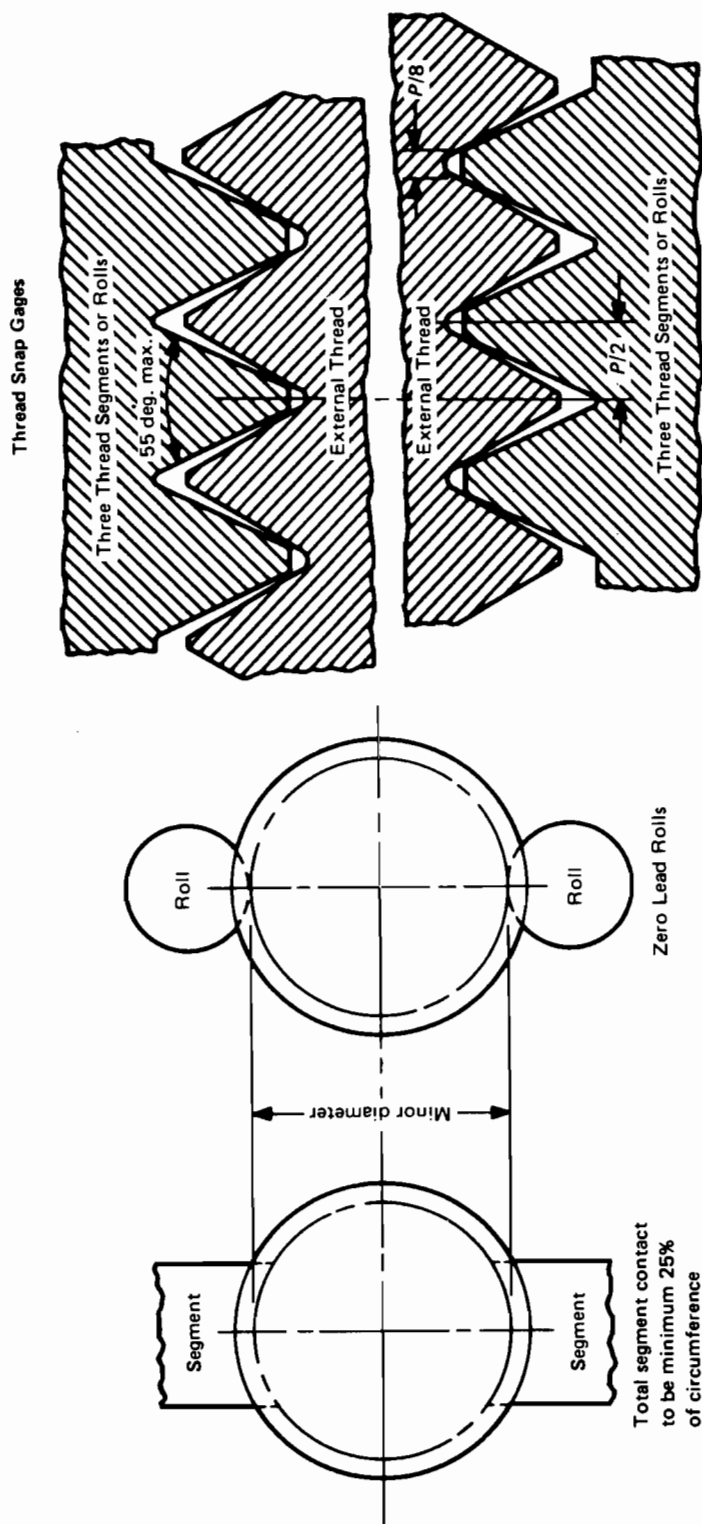

FIG. 25 MINOR DIAMETER LIMIT SNAP TYPE
5.8.2 Basic Design. A thread snap gage has segments or rolls with a thread form of 55 deg. maximum. There usually are three threads on the segments or three ribs on the rolls on GO and NOT GO gaging elements. See Fig. 25.